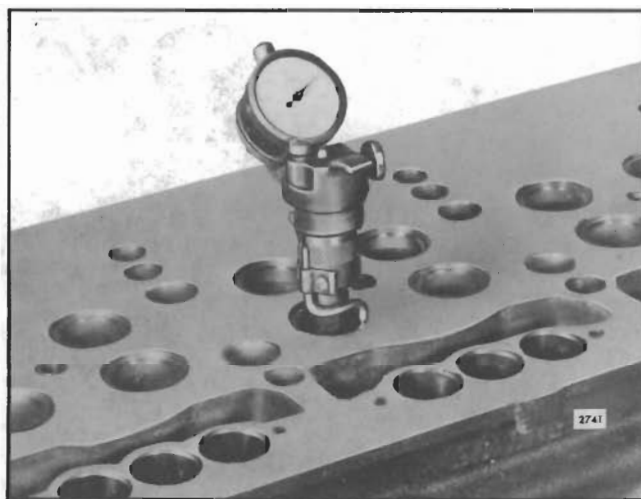

Fig. 14 - Checking Relative Concentricity of Valve Seat Insert with Relation to Valve Guide
5. After the grinding has been completed, clean the valve seat insert thoroughly with fuel oil and dry it with compressed air. Set the dial indicator J 8165-2 in position as shown in Fig. 14 and rotate it to determine the concentricity of each valve seat insert relative to the valve guide. Total runout should not exceed .002". If a runout of more than .002" is indicated, check for a bent or worn valve guide before regrinding the insert.